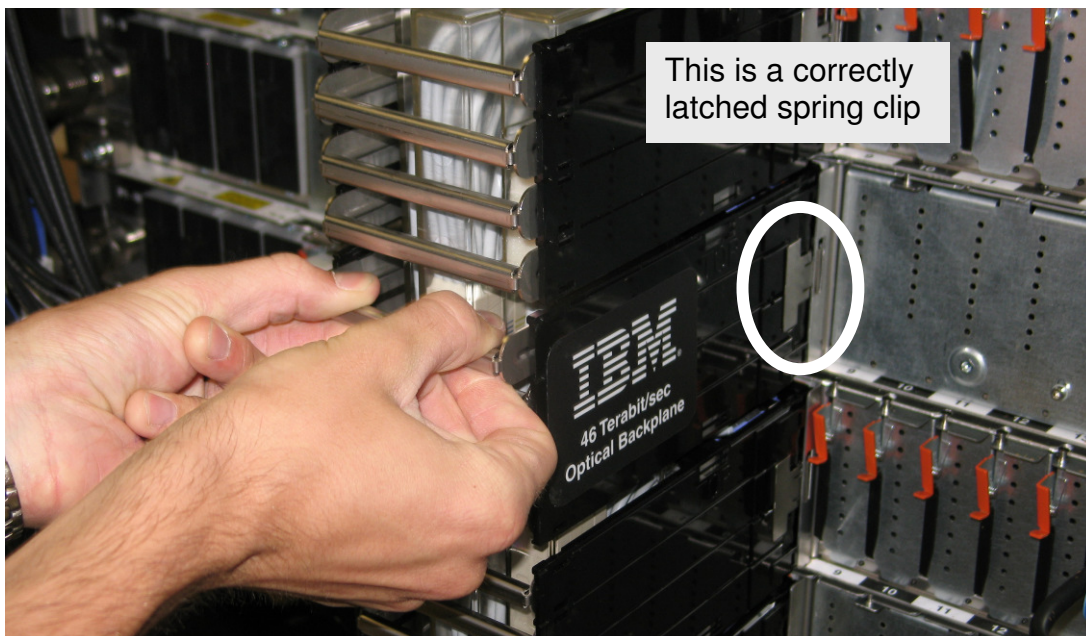

Figure 23 Optical Backplane Enclosure
STEP 33 Pull out each of the 4 actuation handles until the connectors are unplugged. It is not necessary to pull the handle out more than 1/2 inch. Figure 23 shows a method for pulling out the handles. The photo also shows the spring clips on the right side of the OBE, holding the 4 sections of the OBE to the CEC drawers.